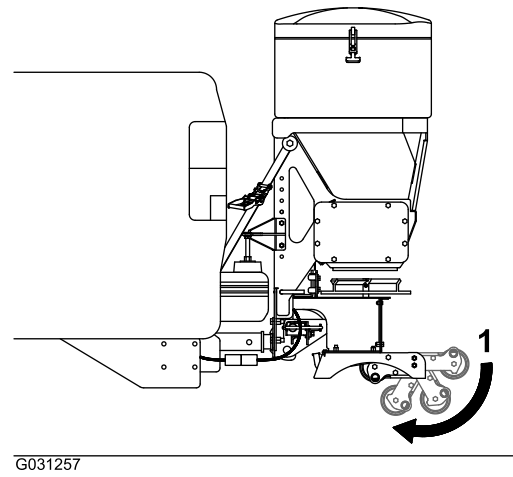

Figure 12
11. Step on the leg-assembly wheels to pivot them and stow them under the leg assembly (Figure 12).